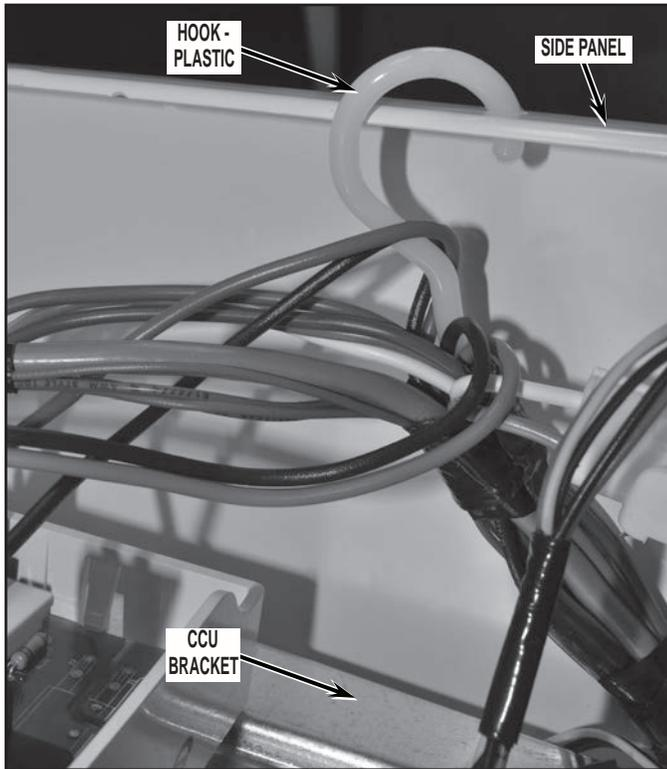

FIGURE 16
19. To gain further access to the burner assembly the drum will need to be removed. Before removing drum from dryer the CCU & bracket assembly must be secured in position to side panel using the plastic hook attached to the main harness. This will allow the CCU assembly to hang in place rather than dropping down when the drum is removed. See *Figure 16*.